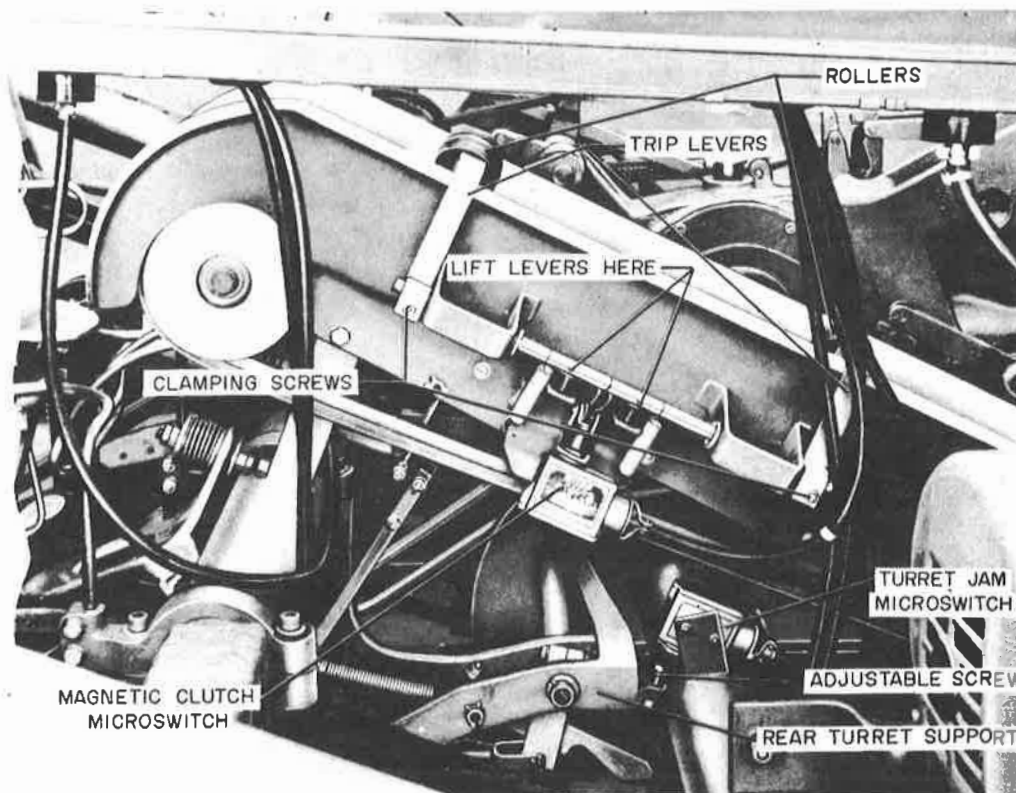

Figure 97. Magnetic Clutch Adjustment
48. TURRET JAM MICROSWITCH ADJUSTMENT. (FIGURE 97)